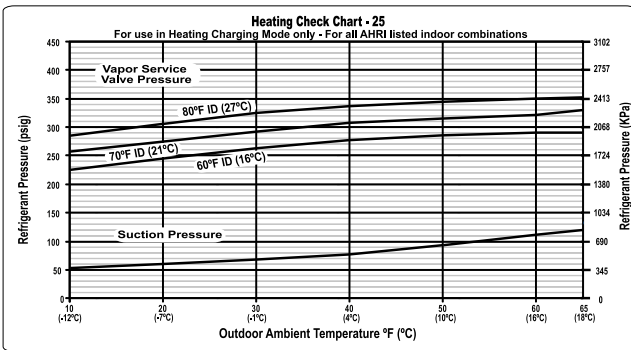

Fig. 28 - Heating Pressure Check Chart 288BNV025
Heating Check Chart Procedure (See Fig.28 - 31) (Communicating / Non-communicating Systems)
To use the Heating Check Chart, the user interface (UI) must be in Refrigerant Charging mode selected from the Installation and Service screen. The Charging Mode Selection screen will show selections for Weigh-In Charge Method or Heating Check Charge Method. Select Heating Check Charge Method. The Heating Check Charge method will only be displayed if the conditions are right for checking the charge in heating mode. When Heating Check Charge Method is selected, the system will operate by running in stage 5 with appropriate outdoor fan speed and indoor airflow. Upon completion of a countdown period for system stabilization, check refrigerant pressures for the appropriate ambient temperatures shown in Fig. 28, 29 or 31 based the OD unit size.